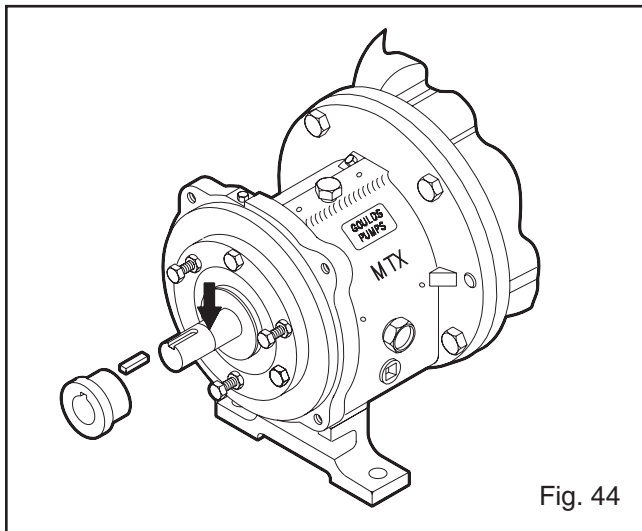

Fig. 44
- Remove casing gasket (351) and discard. (Replace with new gasket during reassembly.)
- Remove jack screws (418).
**NOTE: Casing gasket (351) may partially adhere to casing due to binders and adhesives in the gasket material. Clean all gasket surfaces.**
- Support frame adapter (108) securely to workbench.
- Remove coupling hub (Fig. 44).